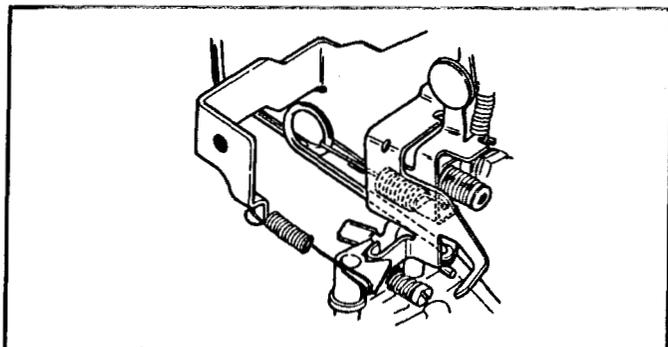

Figure 94
3. Hook the governor link spring on the throttle bracket assembly. See Figure 94.